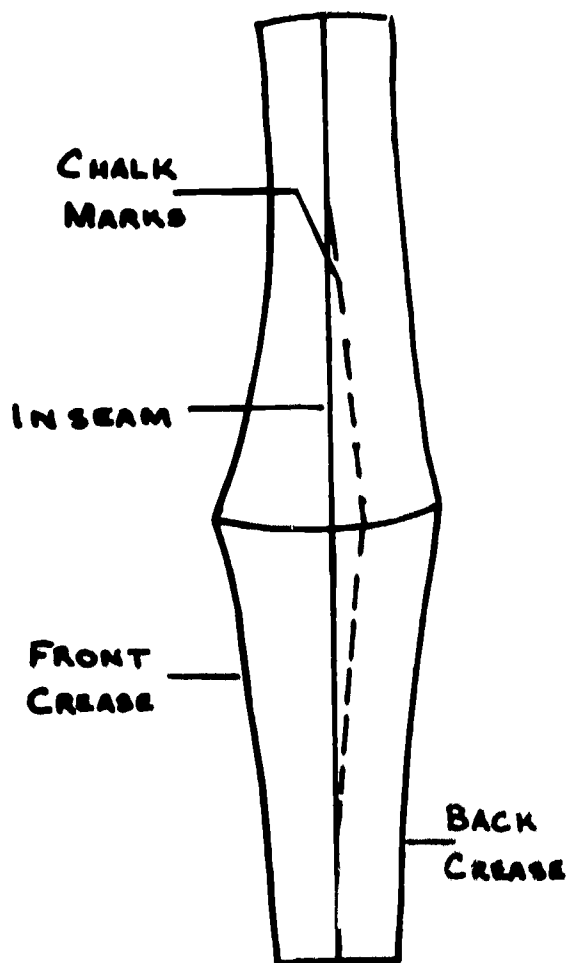

Figure 72.
6. Mark the width to be taken in on the back part of the trouser legs (see Figure 72). Begin the marked line at the crotch area and gradually taper it until it meets the inseam at the knee. Be sure the marks are identical on both legs.